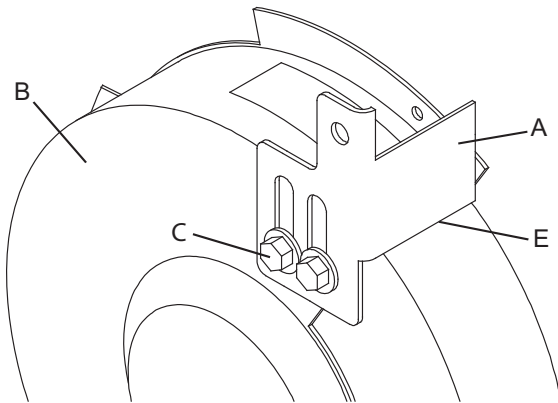

Figure 6 - Assemble spark arrestors.
- Assemble the spark arrestors (A) to the inside surface of the wheel covers (B) with the hex head screws with washers (C) as shown. See Figure 6.
- Adjust each spark arrestor until the lower edge (E) is 1/16" from the grinding wheel. Firmly tighten the hex head screws. See Figure 6.